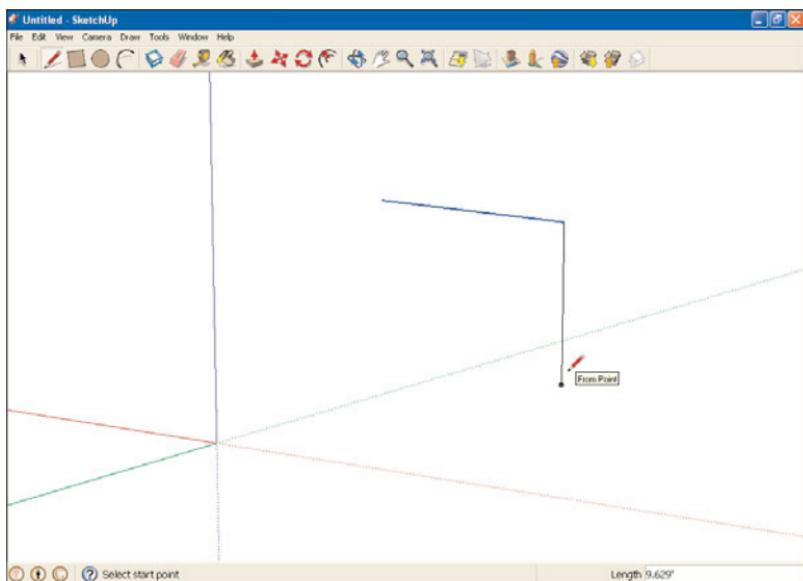

FIGURE 2.21 The need for inferring an edge.
Many times when you're drawing edges, you want to draw one edge parallel to another and end so you can connect the two edges with another edge that goes from end point to end point while the new edge is parallel to an axis. For example, take a look at the situation in Figure 2.21.
3. Draw two edges like those in Figure 2.21.